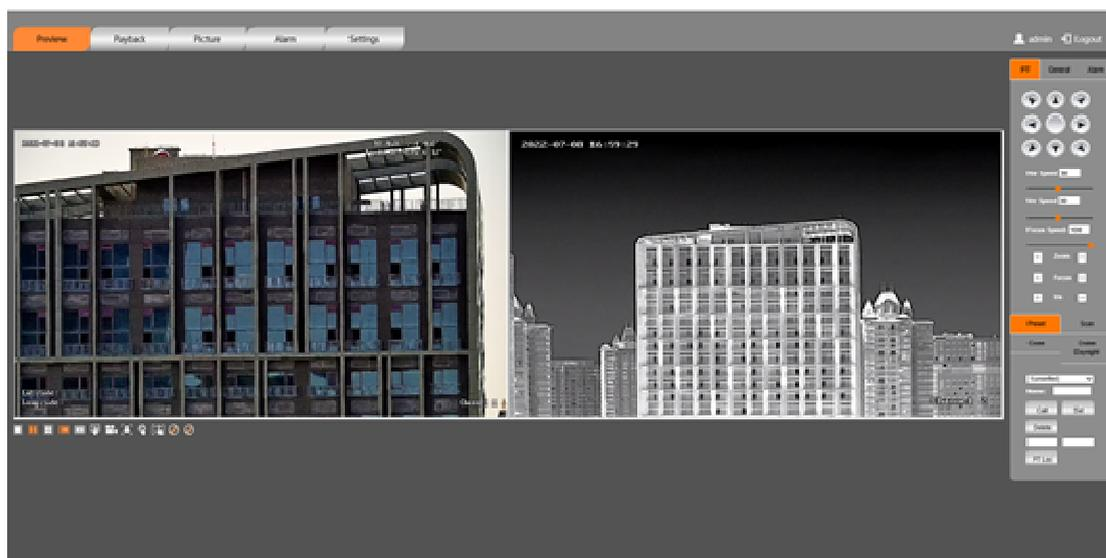

Figure 4-2 Preview
Step 3, Click Login. After the login is successful, the Preview screen is displayed, as shown in Figure 4-2.